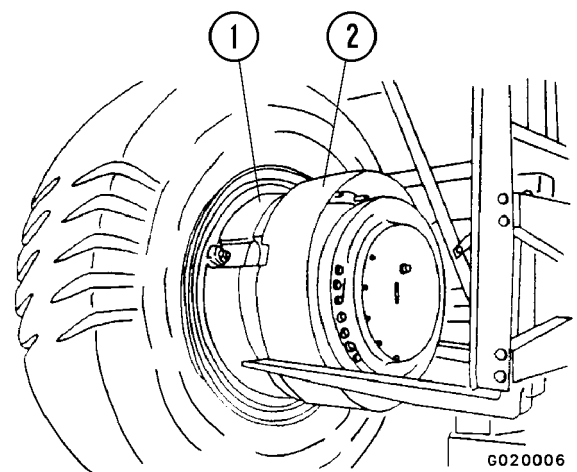

FIGURE 2-5. SPACER AND TIRE
6. Position tire removal apparatus as shown in Figure 2-5 and remove outside wheel assembly.
7. Remove spacer (2, Figure 2-5).